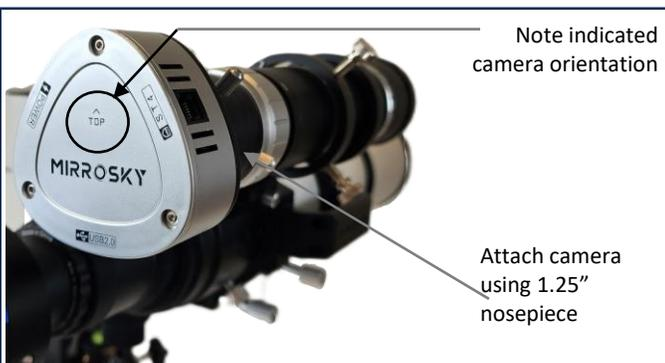

Fig. 2.7
2. **Orient Camera:** Rotate the camera so the "TOP" label on the rear cover is oriented right-side up. See Fig. 2.7.